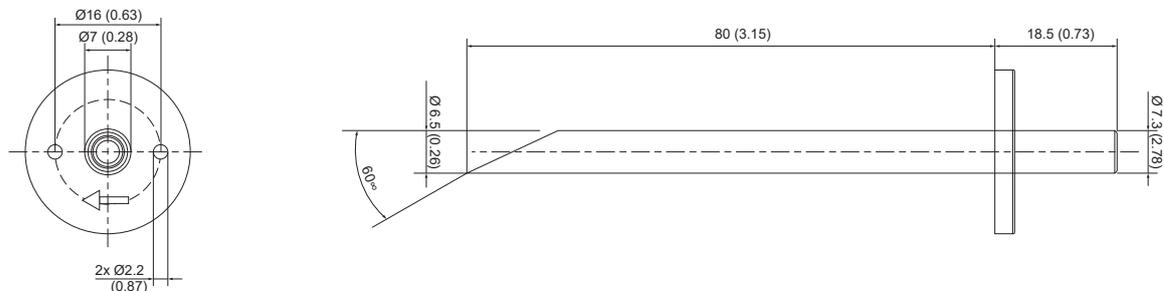

Fig. 5 Dimension of pressure connection nipples
2. To connect the hoses at a duct use the pressure connection nipples (included in the scope of supply). Use a $\varnothing 7.5$ mm (0.30") drill for the holes regarding the dimensions in Fig. 5.